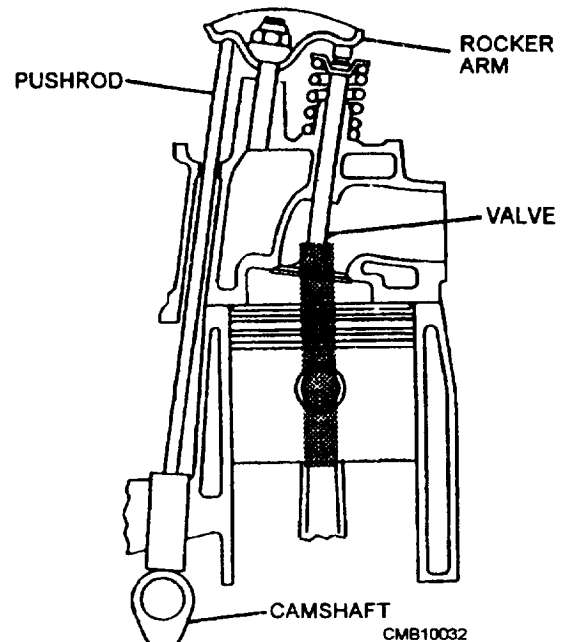

Figure 2-12.—I-head engine.
- **I-HEAD** (fig. 2-12)—The intake and the exhaust valves are both mounted in a cylinder head directly above the cylinder. This arrangement requires a tappet, a pushrod, and a rocker arm above the cylinder to reverse the direction of valve movement. Although this configuration is the most popular for current gasoline and diesel engines, it is rapidly being superseded by the overhead camshaft.